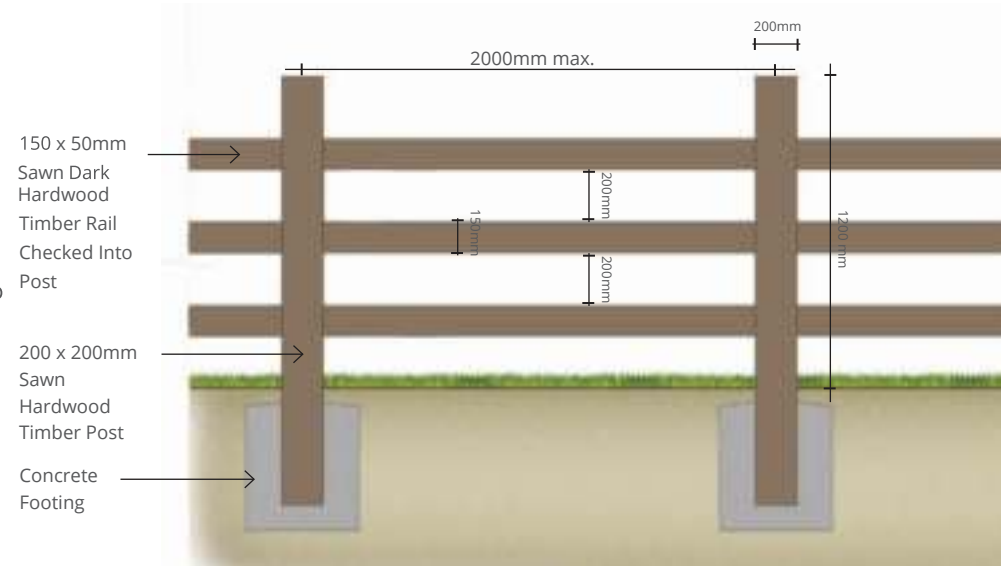

Figure 5: Typical Section- Dark hardwood Timber Post & Rail Fence. Mandatory.
- Dark hardwood timber post and rail fence to boundaries facing streets Mandatory. Refer figure 5
- All front boundary fences (and any other fences fronting a road i.e corner lots) are to be 1200mm sawn, dark, natural hardwood timber post and rail (3 rails). Mandatory. Refer figure 5